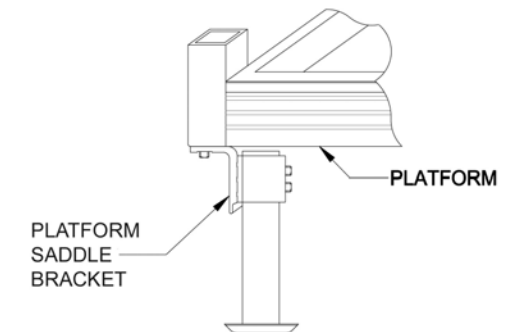

FIG 7
- iv) Slide the platform saddle brackets into position (one end of the bracket will slide into the groove). **NOTE:** If there are space limitations, the saddle brackets can be installed under the platform as shown in FIG. 7 (if necessary, support tubes can be cut to fit).